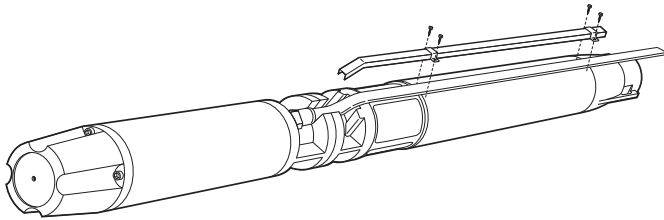

Fig. 7
- adjust electric cables outside the pump and cover them by the suitable guard (fig. 7).